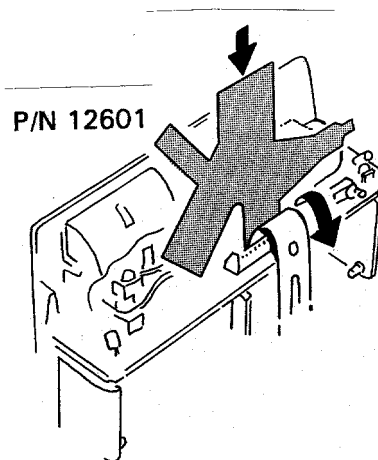

Fig. 4 Removing Flex from Lower Housing
4. Remove two Flex leads from PC Board by inserting appropriate-size fingers of Universal Flex Tool 12601 into Board connectors and pulling Flex out (Fig. 4).